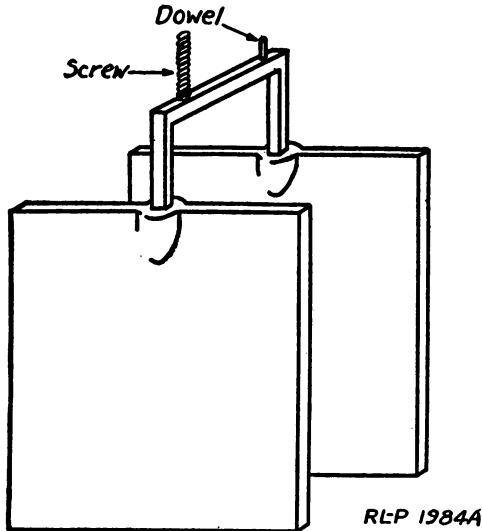

Fig. 13.—Zinc plates of Edison primary cell
a. Pass the screw of the zinc element (Fig. 13) through the middle hole in the cover of the jar. The dowel will fit into the other hole on the same diameter of the cover. Replace the leather washer and the jam nut, clamping the zinc electrode firmly to the cover.